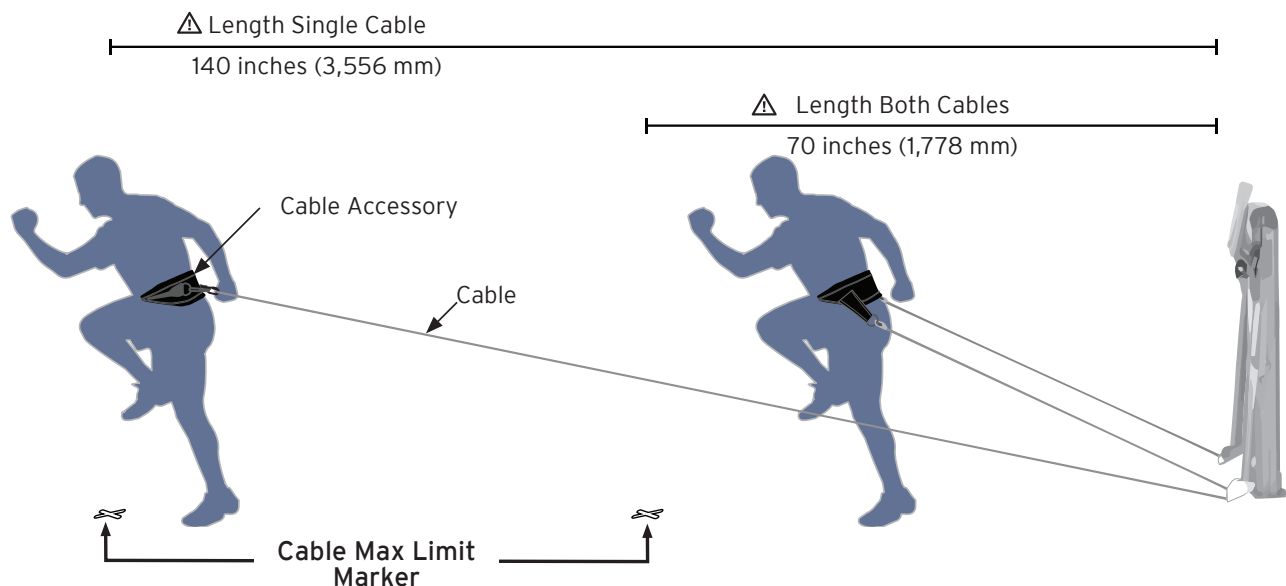

Figure 3. Maximum Cable Length Extension Illustration
Plan Training Space accordingly to allow for full-range operation (refer to Figure 3 below). When Functional Trainers are placed adjacent to each other, the Training Space may be shared. Actual Cable Length may vary, based on Accessory type, user height, and the position setting of the exercise Arm.
2. **Mark your Cable Max Limit:** Secure your Cable Accessory to the Cable. Walk your Cable Accessory out until the stop is reached. This is your Cable Max Limit. Place a marker on the floor (i.e. tape, keys, or a water bottle) to indicate your Cable Max Limit (see Figure 3).